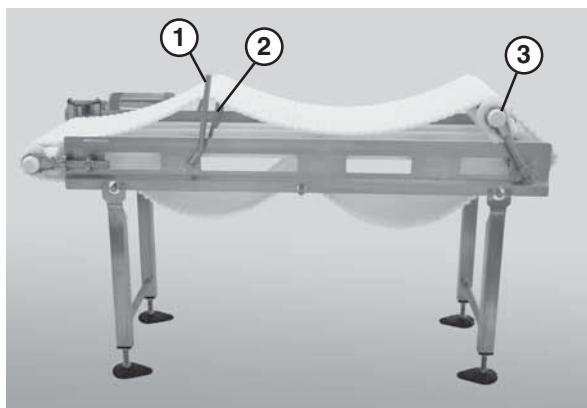

Figure 45
2. Use the lifter handle (**Figure 45, item 1**) to raise the lifters (**Figure 45, item 2**) and raise the tip up tail (**Figure 45, item 3**).